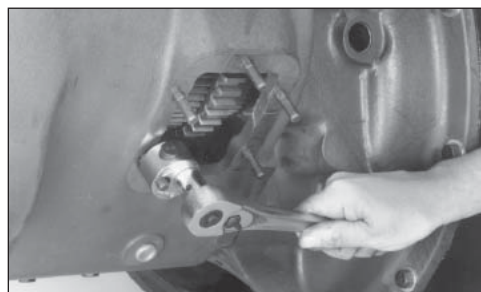

Fig. 6
4. Install the proper studs (furnished with PTO) in the PTO aperture pad using a stud driver. Studs may have either interference fit threads (plain) or preapplied locking/sealing compound For installation method (**Fig. 6**).